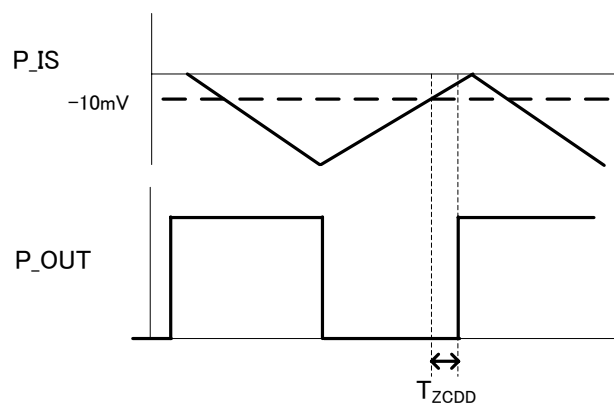

Figure 32. P_IS Zero Current Detection Delay Time
Zero current detection circuit is used to sense the zero crossing of Inductor current (IL). P_OUT output is set to be low after zero detection delay because P_IS voltage becomes more than zero current detection voltage. The over-current detection of an inductor current is set to be $V_{th} = -0.6V$ (typ) of P_IS voltage. To remove switching noise, we recommend additional CR filter in P_IS pin. The operation is shown is Figure 32.